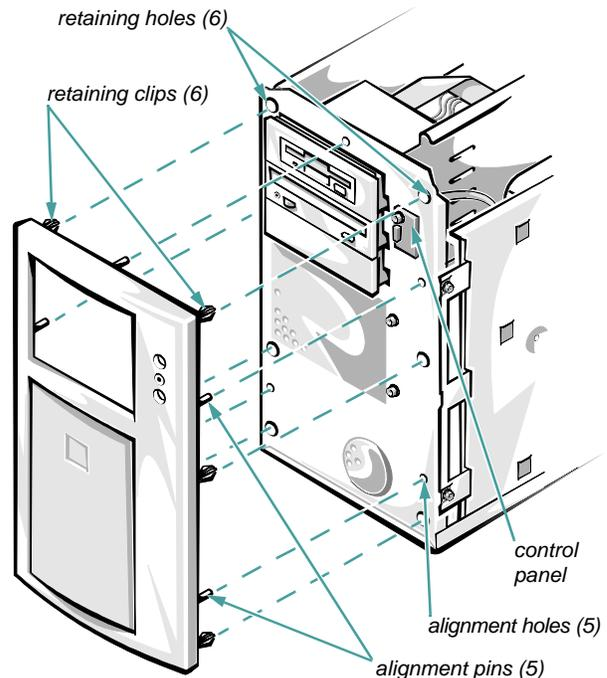

Figure 6-2. Removing the Front Bezel
2. Gently pry the bezel loose with your finger tips, and remove it from the chassis (see Figure 6-2).
1. Insert the five plastic alignment posts on the front bezel into the appropriate holes in the front of the chassis (Figure 6-2).